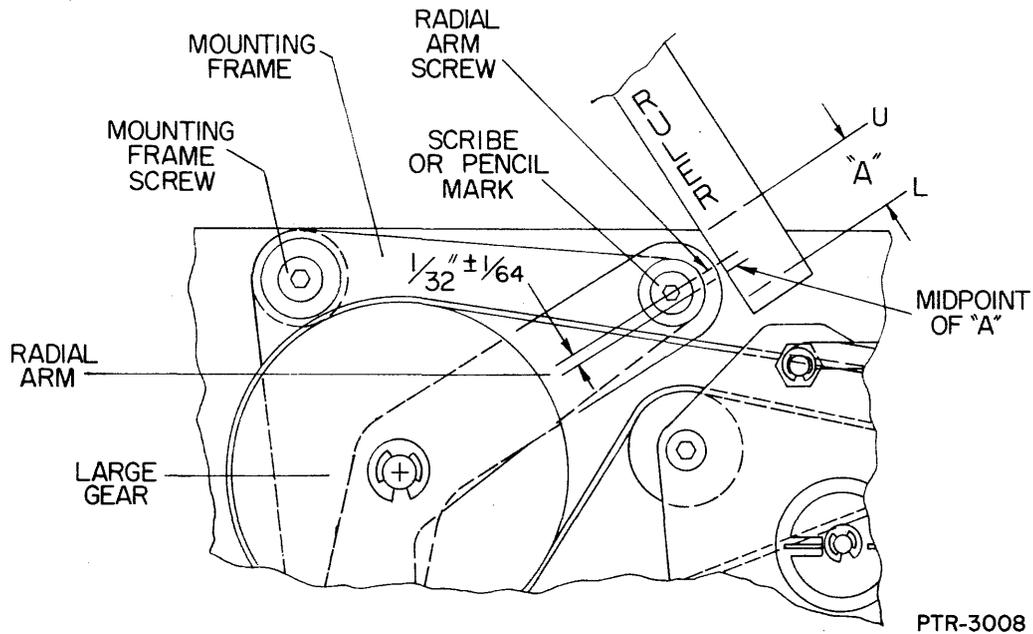

Figure 5-44. VTF Adjustment Mechanics.
4. Scribe or pencil a mark at the end of the radial arm (see Figure 5-44).
6. Position ruler as shown in Figure 5-44.